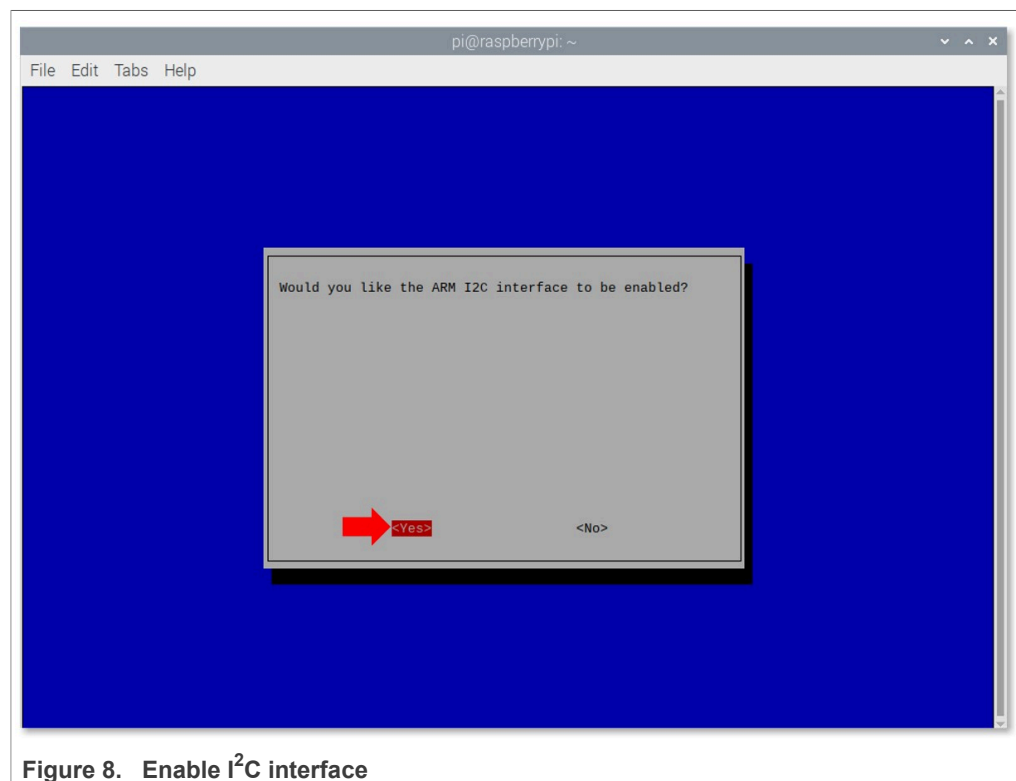

Figure 8. Enable I²C interface
5. You will be asked to confirm your choice to activate the I²C interface. Use the left and right arrow keys to select the Yes option and then press Enter, as shown in Figure 8: